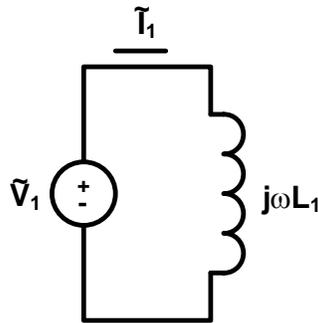

Figure 3: Electrical Equivalent Circuit (Ignoring Coil Resistance)
- Use the circuit of Figure 3 to estimate the rms current (use the measured rms voltage and remember that the frequency of the power supply is 60Hz). How does this value compare to your measured value of Table 1?